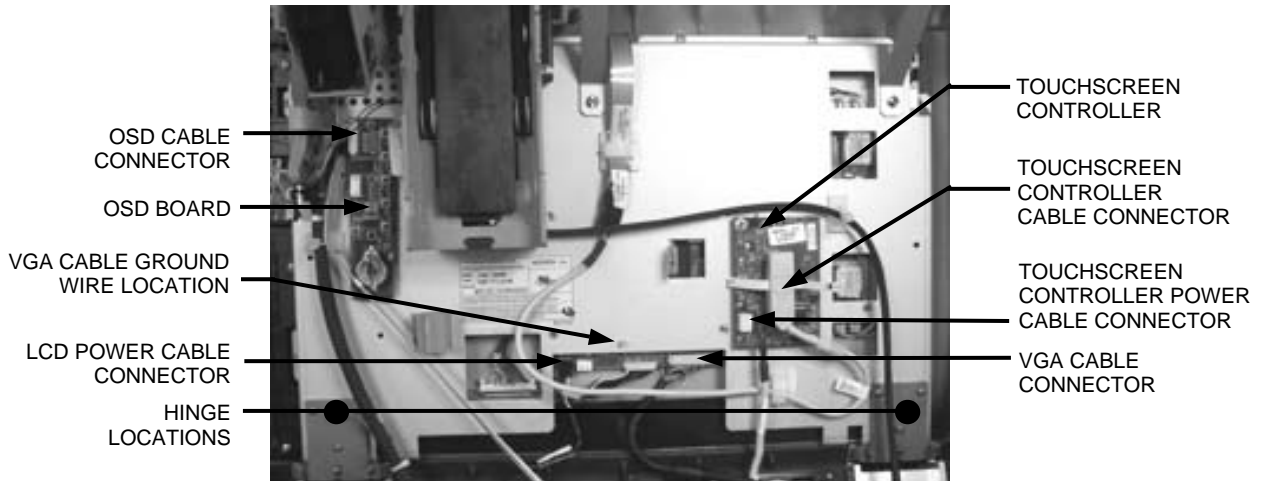

FIGURE 1 – MONITOR CONNECTIONS
3. Disconnect the LCD power cable connector, the VGA cable connector, and the touchscreen controller power cable connector (see Figure 1). Disconnect the VGA cable ground wire by removing the nut securing it to the rear of the monitor.
*If you are replacing the monitor:* Disconnect the OSD cable connector and then remove the OSD board from the Velcro securing it to the rear of the monitor (see Figure 1).